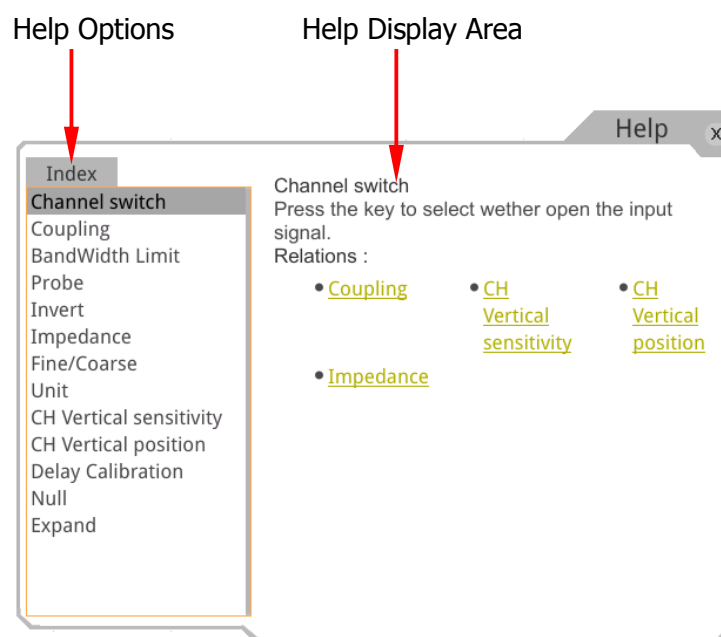

Figure 14 Help Information
2. Press **Content** or tap the "Content" menu item, and then the help information is displayed on the screen, as shown in Figure 14. The help interface mainly consists of two sections. The left section lists "Help Options", and the right section is the "Help Display Area".